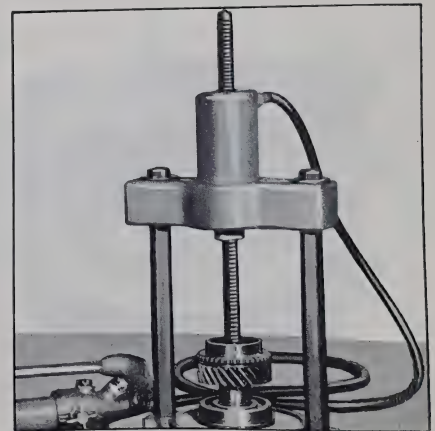

Figure 4-142—Installing Countershaft
6. With the transmission case resting on its front face, move countergear into mesh with main drive gear. Be sure thrust washers remain in place. Install woodruff key into end of countershaft and press shaft (Figure 4-142) until end of shaft is flush with rear face of transmission case.